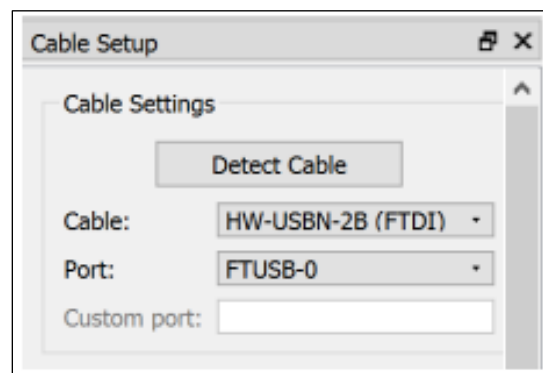

Figure 3.11. Port Selecting
2. If the device is not detected on port FTUSB-0, click **Detect Cable** and select port FTUSB-1 (Figure 3.11).